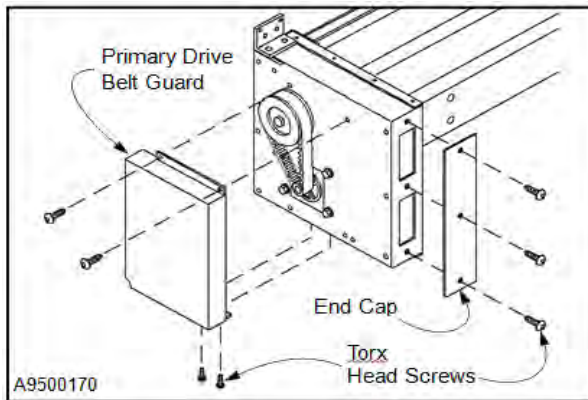

Figure 22
3. Remove the end caps from the left and right drive assemblies. Each end cap is held in place by three, 20-mm-long, Torx head screws. (See Figure 22.)
4. Remove the primary drive belt guard from the left drive assembly. The guard is held in place with four, 20-mm-long, TORX® head screws. (See Figure 22.)